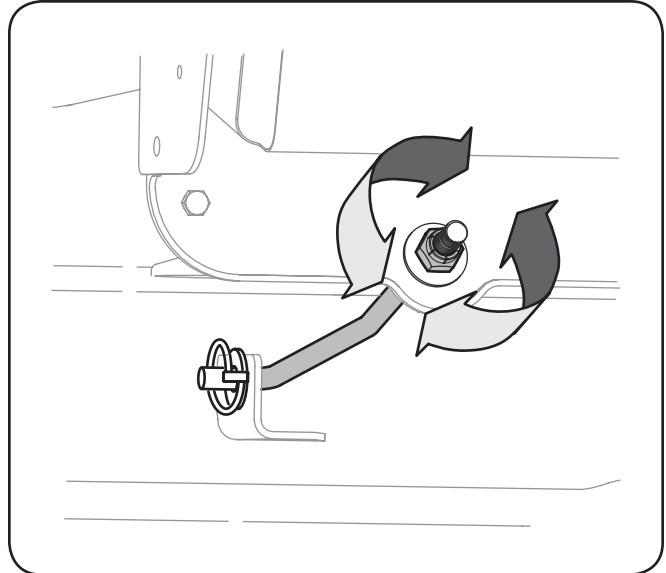

Figure 6-5
1. To *raise* the front of the deck, tighten (thread inward) the hex nut against the front hanger bracket. See Fig. 6-5.
2. To *lower* the front of the deck, loosen (thread outward) the hex nut, away from the front hanger bracket. See Fig. 6-5.